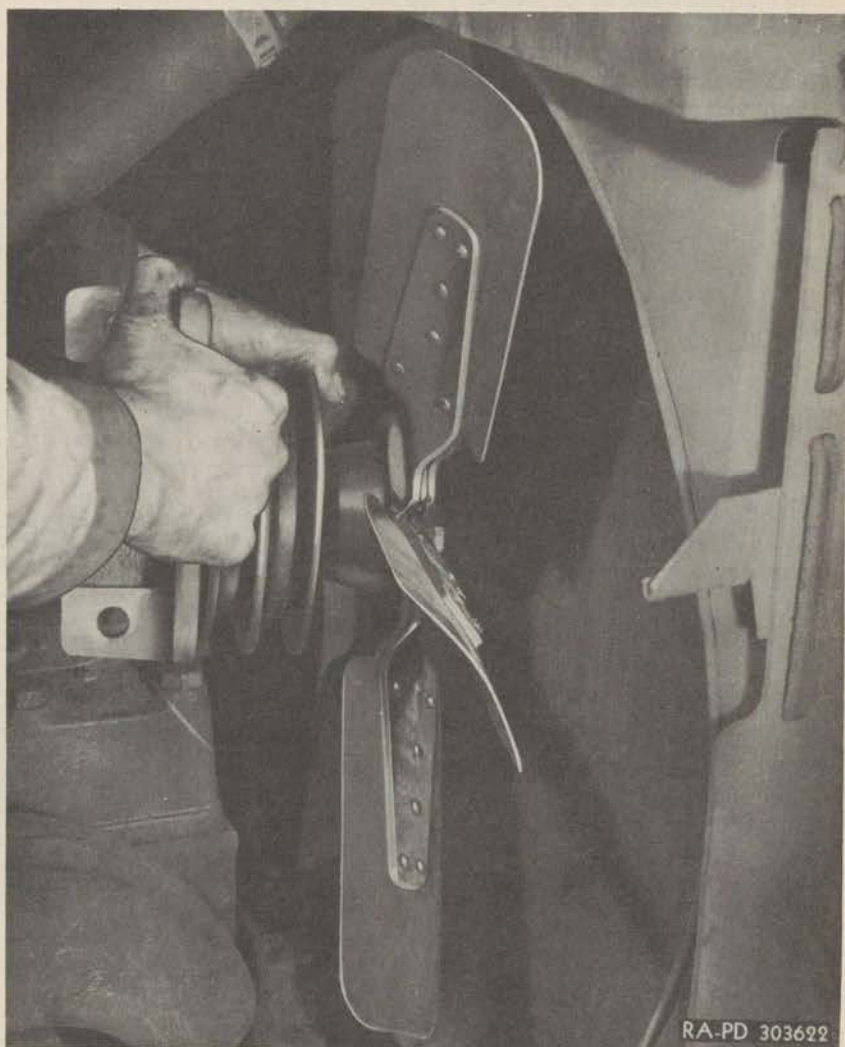

Figure 73—Removing Fan Assembly
engine, and to pull it back so the hub protrudes over the cylinder head with the bottom of the bracket pointing slightly towards the rear of the vehicle so that the fan blades will clear the shrouds (fig. 73). Fan may be removed in this way without forcing, which might injure the radiator core or the fan blades.
(1) **INSTALL THE FAN ASSEMBLY.** Install the fan assembly into place on the engine, using the same angle by which it was removed to work it past the edges of the shroud (fig. 73).
(5) Tighten the adjusting screw jam nut.
(6) Tighten the fan spindle clamp nut between the front of the engine and the fan mounting bracket.